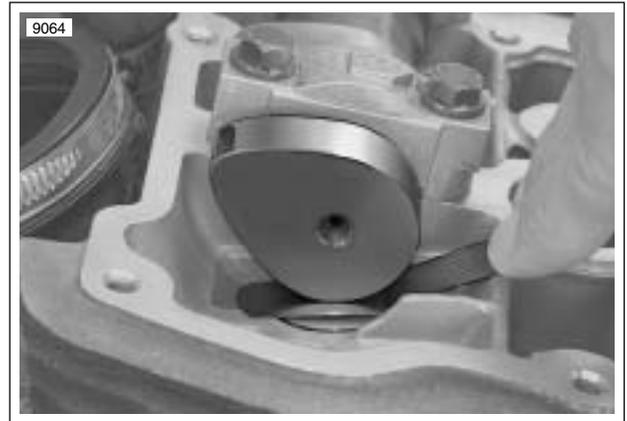

Figure 1-68. Measuring Valve Lash
24. See Figure 1-68. Use blade style metric feeler gages to measure the gap (lash) between the cam and tappet.